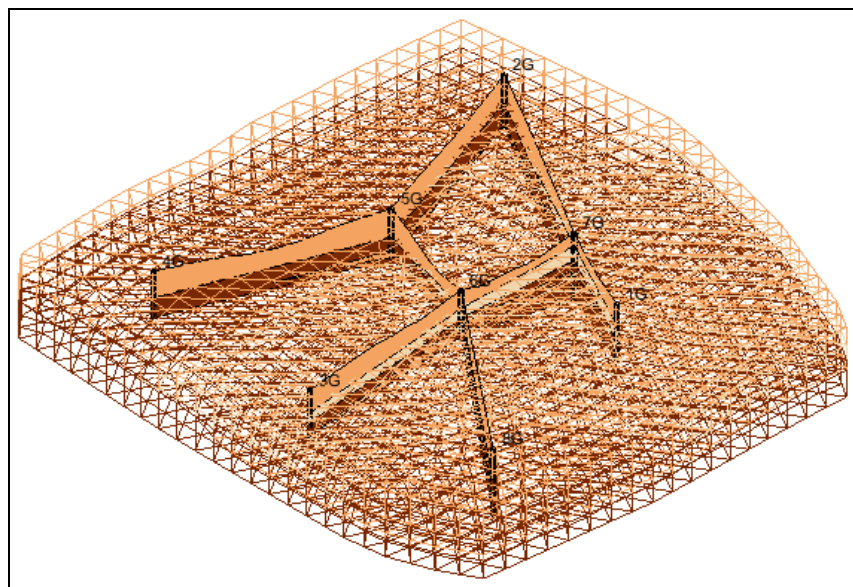

Figure 1 After solids have been created
6. Click **Finish** to close the *Horizons to Solids* dialog. GMS will now create the solids and the Main Graphics Window should appear as in Figure 1.